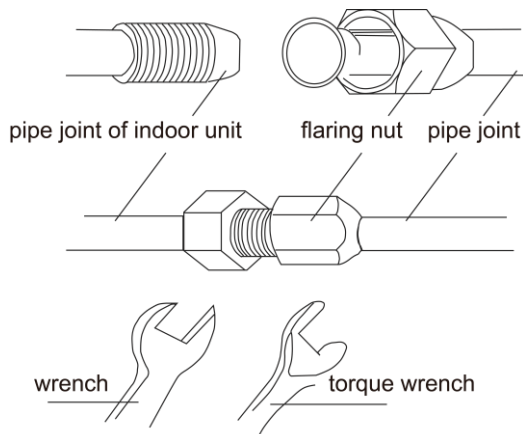

Fig 4.2
- (1) Direct the flaring of copper pipe to the center of screwed connection and then screw the flaring nut tight as shown in Fig 4.2.
- (2) Use a torque wrench to tighten up the flaring nut until the wrench gives out a click sound.